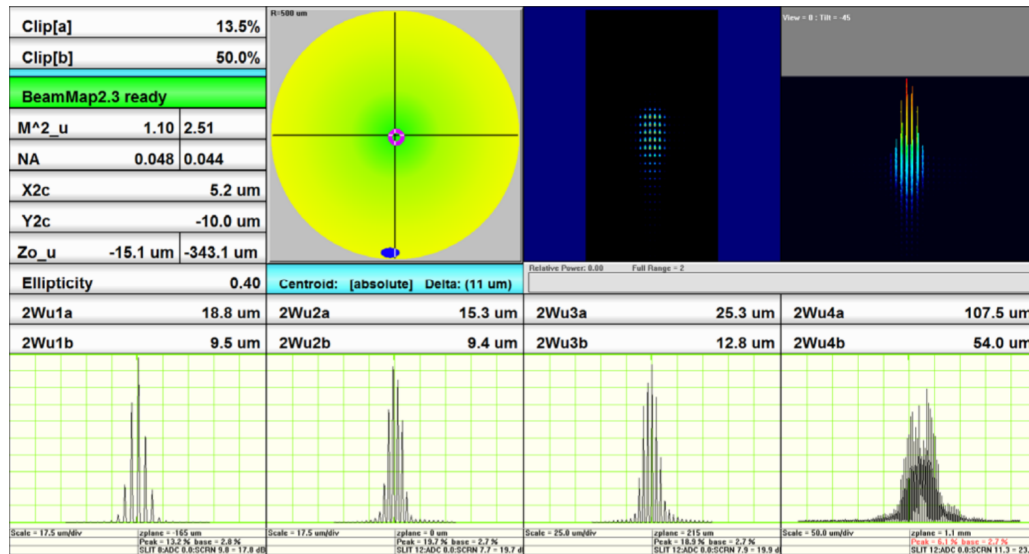

Figure 2: The profile gains should be lowered so that the troughs of the profile data all touch zero
- Click **X** in the toolbar to show only the u profiles. Adjust all four individual profile gains to 8-12 dB lower than their current values, until the troughs of the profile data are no longer above zero (see Fig. 2).